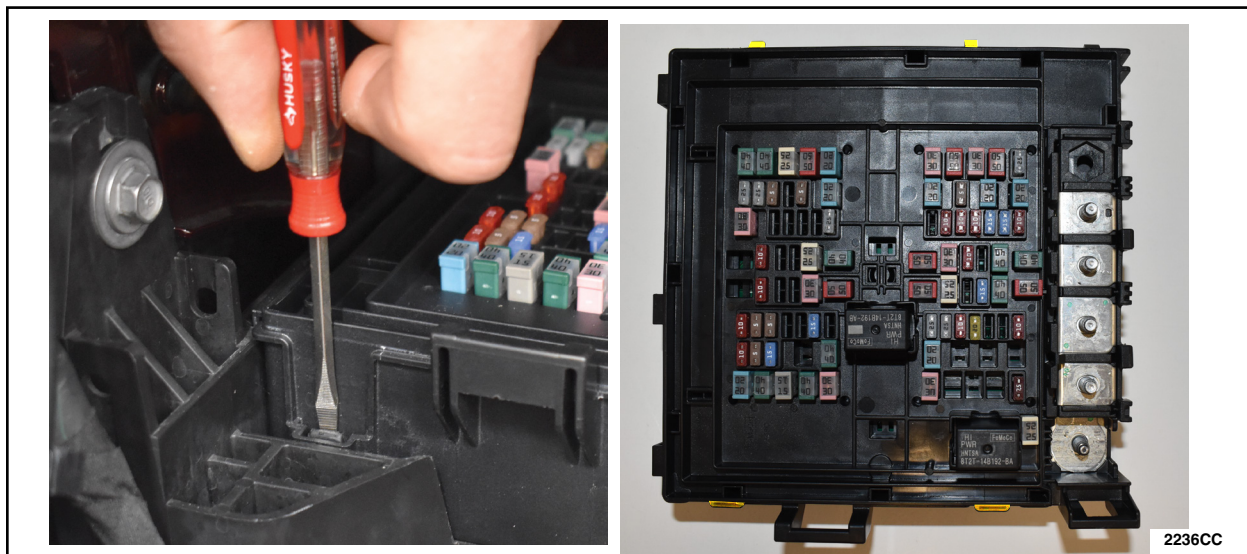

FIGURE 8
8. Separate the upper and lower BJB housings from the bottom cover. There are 4 clips that fasten these two parts together, two in the front and two in the rear. It is easiest to release these tabs with a small screwdriver. See Figure 8.